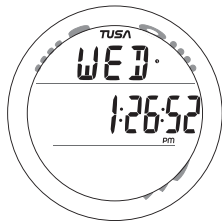

Fig. 6 - MAIN TIME
**Watch Main Time** (Fig. 6) is the current Time at your home location and is normally selected as the Local Default Time.